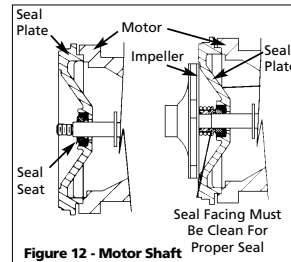

Figure 12 - Motor Shaft
4. Position impeller on shaft and tighten securely (Figure 12).